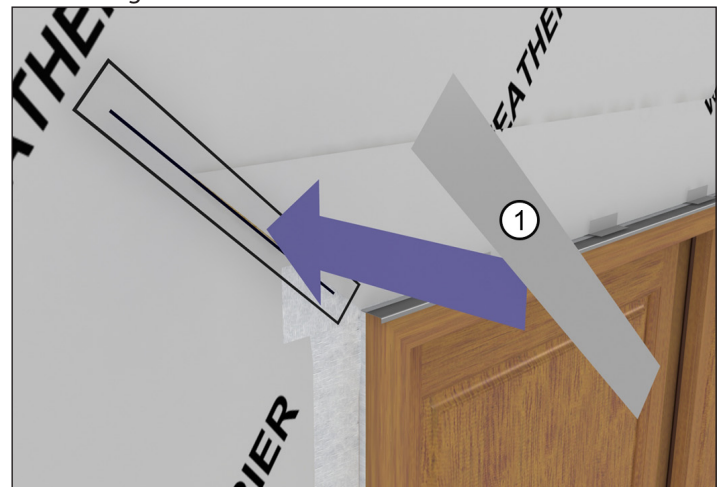

Figure 33
4. Fold the head jamb air barrier down over the head jamb flashing. Apply seam seal tape over the diagonal cut in the air barrier. Make sure the tape laps onto the unit or casing. Cut 3" (76) strips of tape and install every 12" (305) along the head jamb. Tape and seal any seams and fasteners directly above the unit. See figure 33.